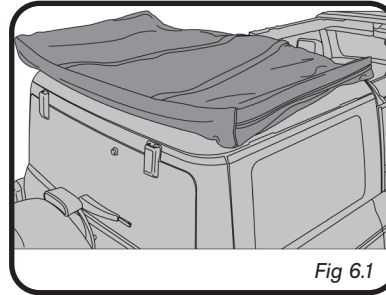

Fig 6.1
2. If using the Hardtop kit to remove and store the hardtop from a 4-door Ford Bronco, place the large middle panel in its storage bag (not included) and then place the panel on top of the hardtop with the front of the middle panel facing towards the rear of the hardtop. (Fig 6.1)